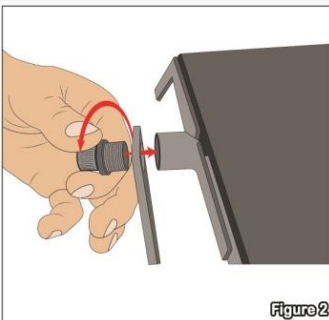
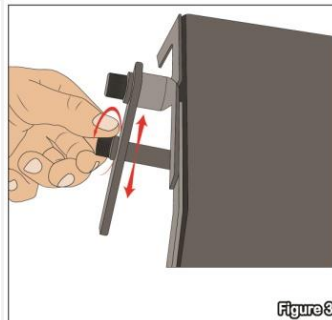

Figure 2
Figure 3
Step 2 – As shown in **Figure 2**, take the steel track sheet (Part E) and screw to the middle bottom part of the panel by using the 3/8" to 5/8" adapter (Part B) and Steel knob with 3/8" thread male (Part D). On the end of the steel track sheet (Part D) insert the tube with 3/8" thread male (Part C) and secure using the 3/8" to 5/8" adapter (Part B) as shown in **Figure 3**. At the tip of the tube insert the 3/8" to 5/8" adapter (Part B) then the 5/8" washer (Part A).